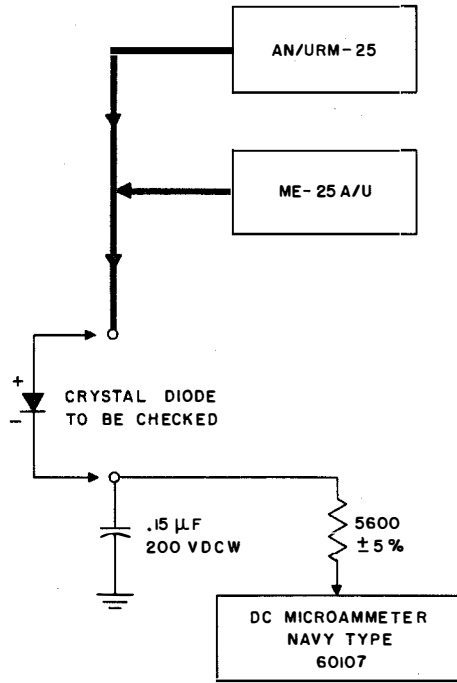

Figure 7-96. Crystal Matching, Test Setup
*Step 1.* Connect equipment as shown in figure 7-96.
*Step 2.* Apply maximum r-f voltage from the AN/URM-25, as indicated in figure 7-96, with crystal diode in place. Measure and record d-c current on microammeter, Navy Type 60107, to nearest 5 microamperes. Compare the diode currents at 0.3 mc, and then compare the diode currents at 26 mc. Keep the AN/URM-25 output the same at both 0.3 mc and 26 mc.